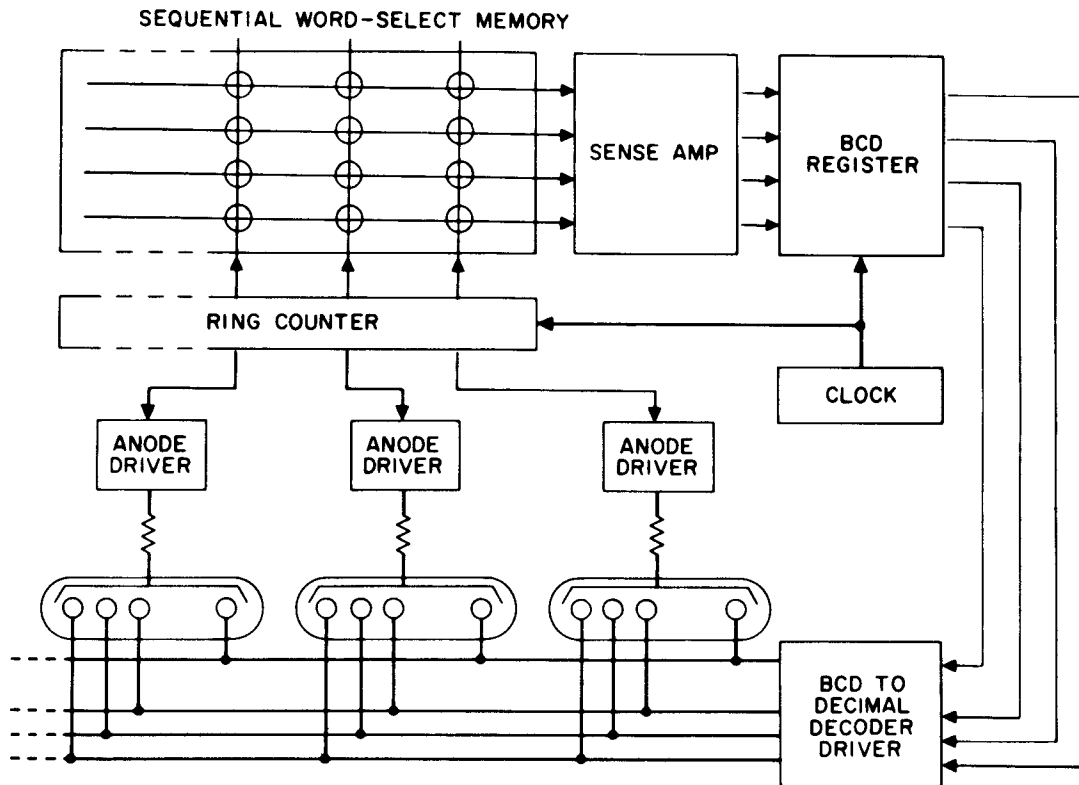

Figure 7. BLOCK DIAGRAM
8. In a typical strobed/time sharing application, (Figure 7) "same-numeral" cathodes (i.e., all 1's, all 2's, etc.) of all tubes are connected in parallel and the anodes are strobed sequentially. The rapid strobing is above the flicker rate and visual indication is normal. However, since the "on" duty cycle is not 100%, a higher than normal current is used to compensate for loss of brightness. The B-5750 NIXIE tubes are constructed and specified for these peak current conditions and no extraneous glow is exhibited during this operation.